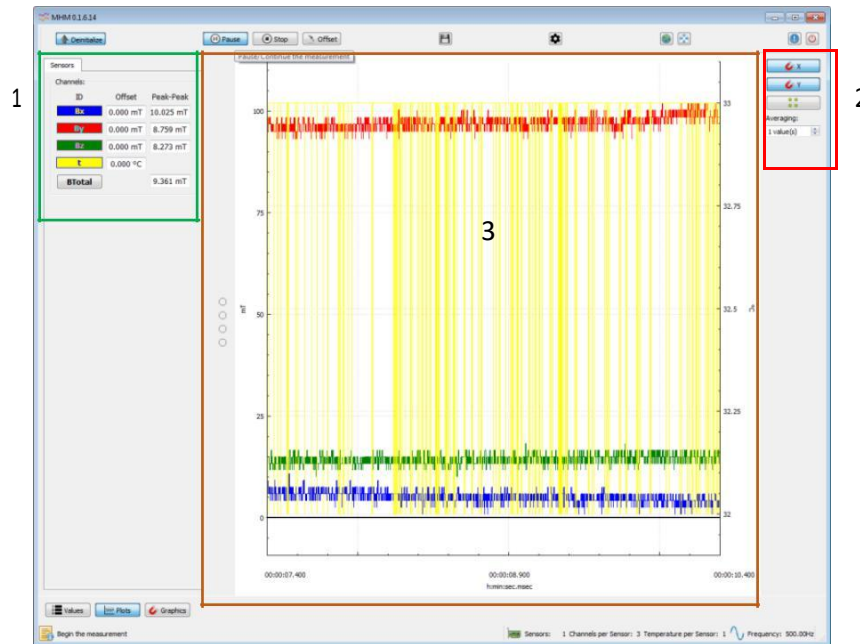
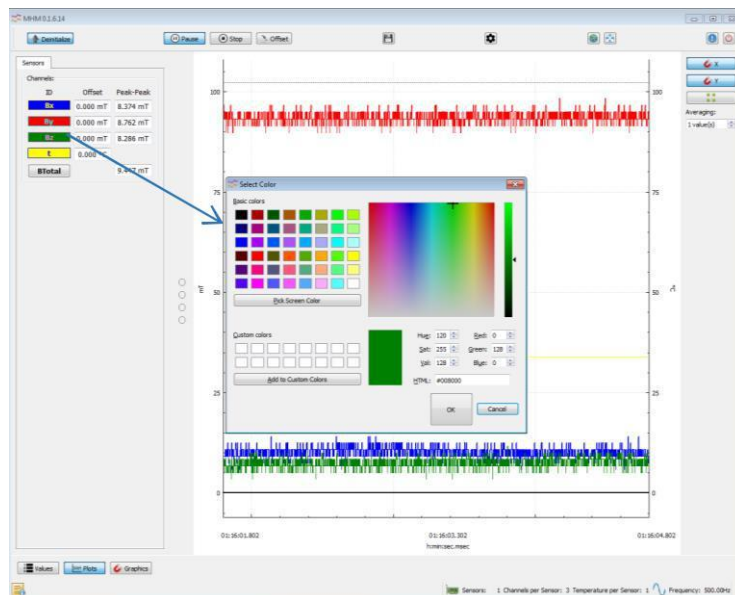

Figure 15: Main application window of the 3MTS software – Plots
Figure 16: Plots window – Assigning a color to the plot
With the "Values / Plots" buttons, the measured values can be displayed as numeric "Values" (see Figure 14) and graphically ("Plots") as shown in Figure 15. The individual sensor channels can be switched on and off on the left side of the "Plots" window (1). The plot color can be assigned to each individual sensor channel by the right click on the corresponding button in the "Plots" window (Figure 16). The offset values and the current measured values are also displayed. On the right (2), the X and Y axes can be selected for manual scaling and can be set with the mouse wheel. The default setting is the "autoscale", after which the diagram area (3) automatically adapts to the measured values. Furthermore, the screen can be moved with the arrow keys. The averaging over a defined number of measured samples can also be set under (2). With the "Graphics" button, magnetic field orientation can be shown (Figure 17).